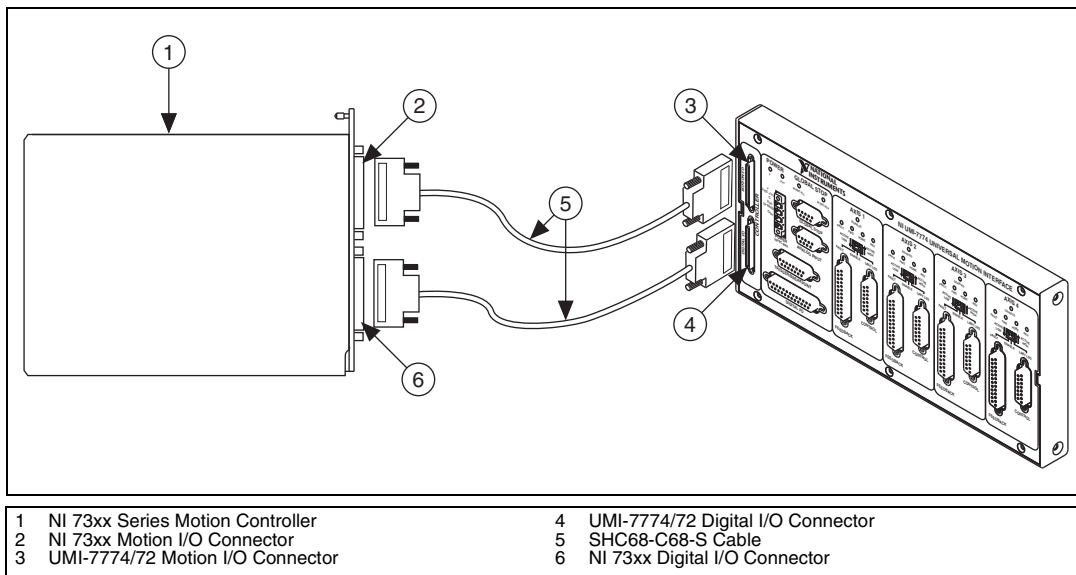

Figure 2. UMI-7774/72 Connected to an NI 73xx Series Motion Controller
4. Connect the UMI-7774/72 to the NI 73xx motion controller by connecting one end of the SHC68-C68-S cable to the 68-pin motion I/O connector on the motion controller and the other end to the 68-pin motion I/O connector on the UMI-7774/72. Refer to Figure 2 for a connection diagram.